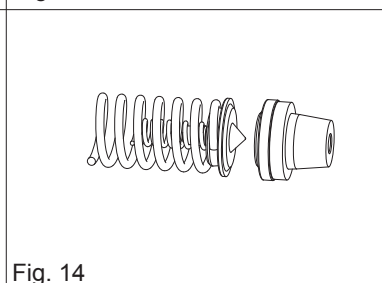

Fig. 14
- Extract the large spring and the small spring/modulation valve set (fig. 14)